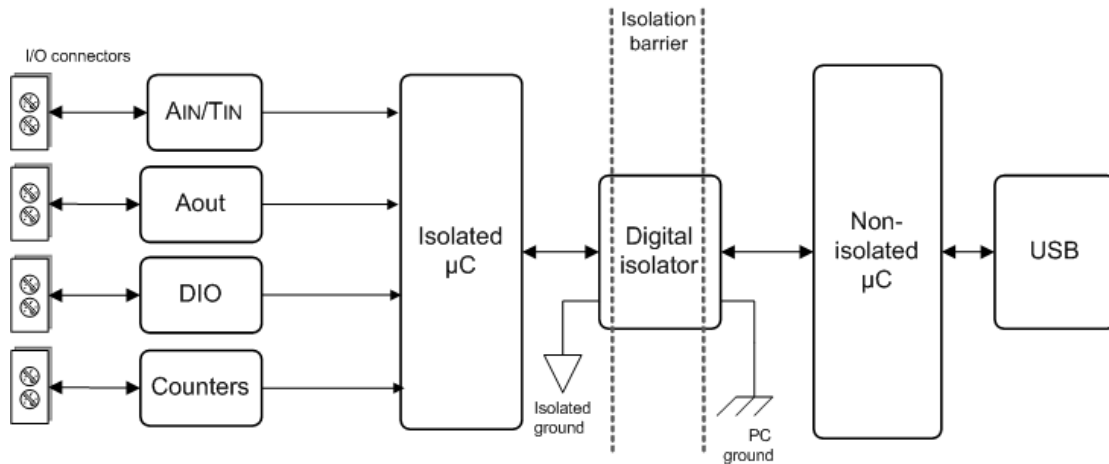

Figure 5. RedLab 2408-2AO input isolation diagram
- All analog measurements are made relative to the isolated ground. See Figure 5 for details.